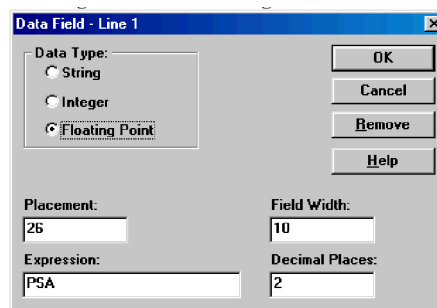

Figure 4.13: Entering Data Field 1
4. Click **Edit/Data Field 1** to enter a data field on line one of the screen. Then complete steps *a* through *e* in figure 4.13.